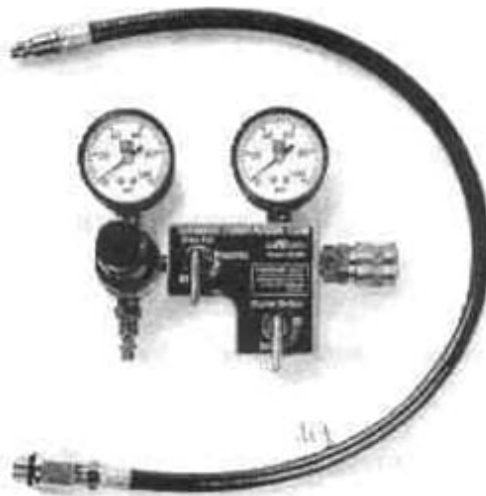

FIGURE 1
Eastern Technology Corporation Model E2M^①. See Figure 1. **Recommended by TCM.**